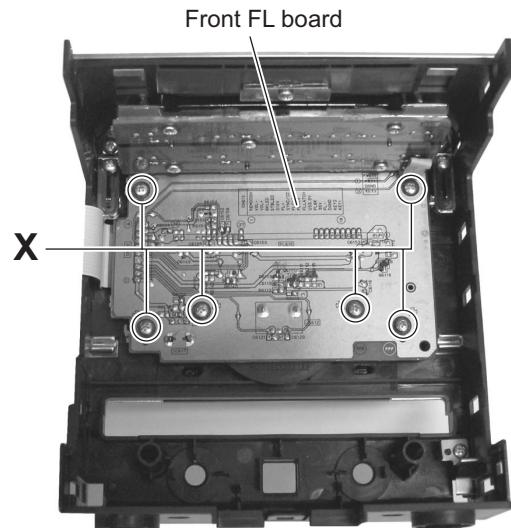

Fig.26
- (3) Remove the six screws **X** attaching the front FL board. (See Fig.26.)
- (4) Take out the switch board and the front FL board.